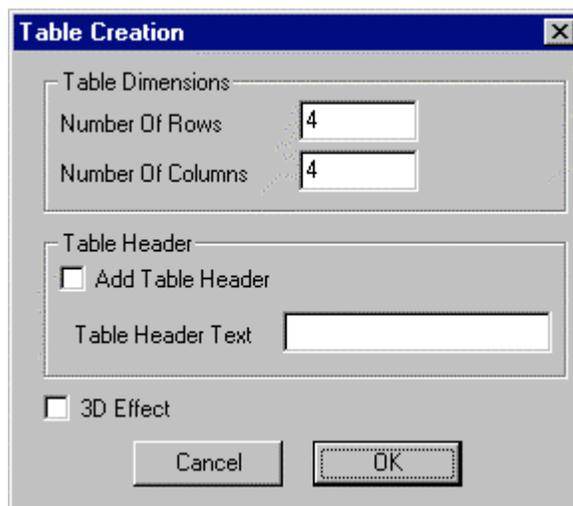

Figure 8.8 – Table Creation
4. The Table Creation windows open (Fig 8.8)